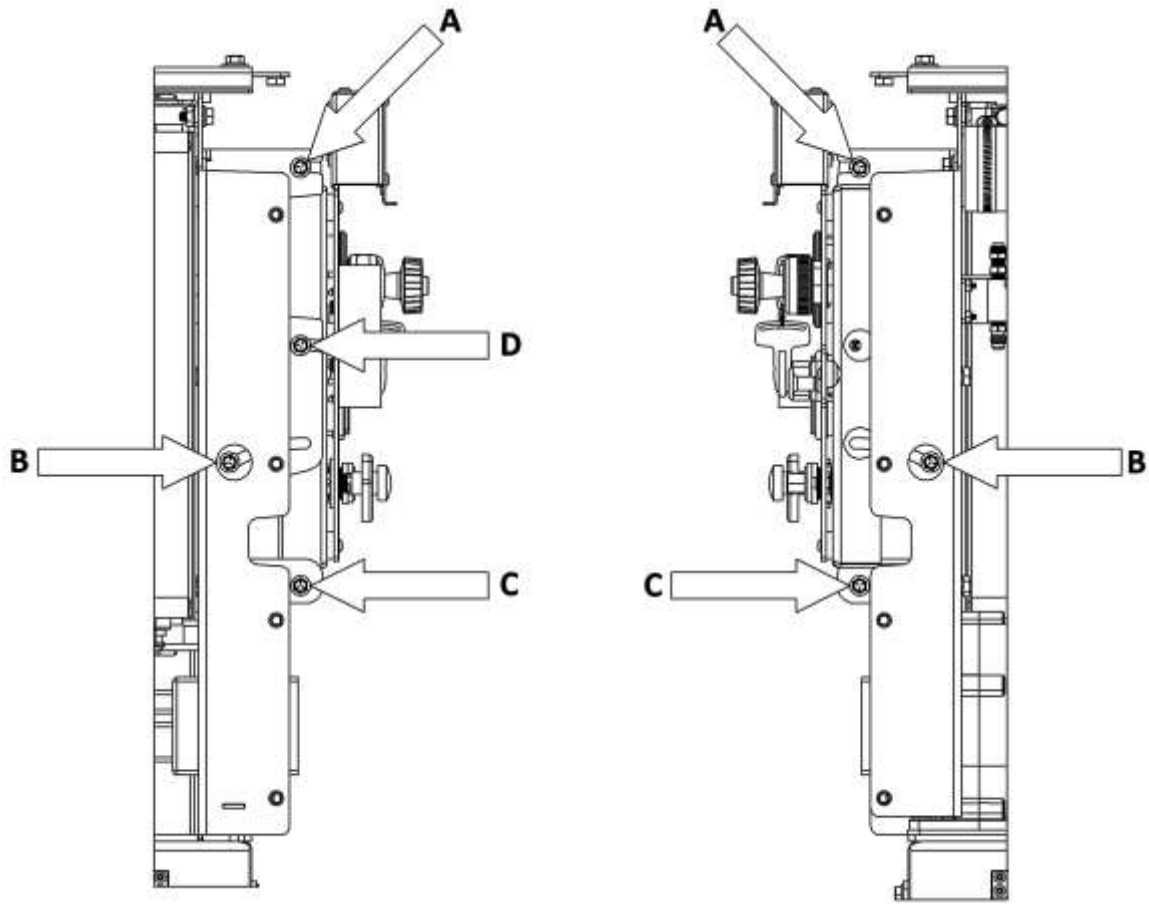
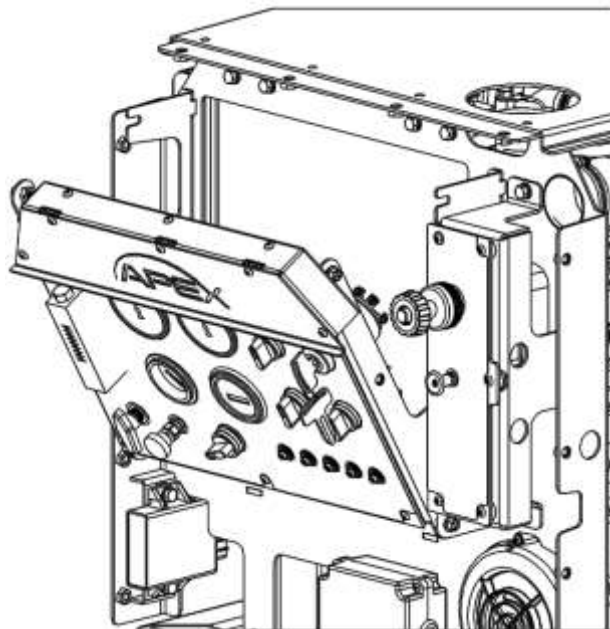

Figure 2 - Right and Left Side Views
Figure 3 - Instrument Panel Access
3. Using a 3/8" socket and 6-inch extension, loosen the retaining screws (as shown in Figure 2). Do not completely remove these screws.
4. With the screws loose, you can now pivot the top of the instrument panel forward (as shown in Figure 3 below), allowing for maintenance access to the panel. If you need more access, you can remove screws "C" as shown in Figure 2 below. Be careful not to overextend the wire harness coming through the upper right as this will damage the unit.